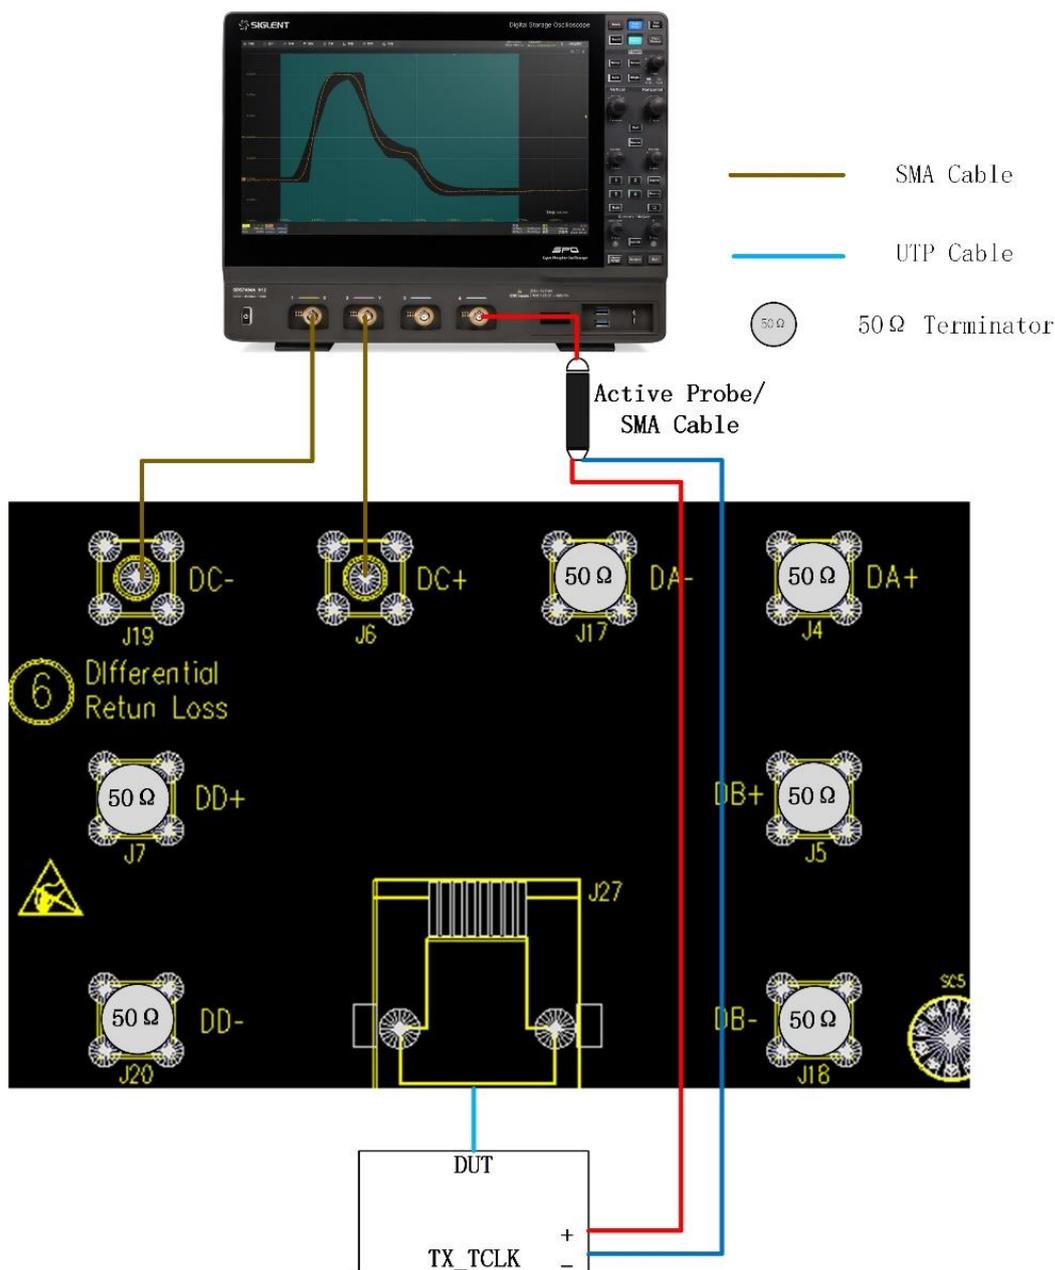

Figure 10-8 Connection of Section ⑥ on test fixture for Slave Mode JTXOUT test
The connection with section ⑥ on the test fixture which supports SMA cables to probe the MDI signal, which is shown as Figure 10-8, the test step is as follows:
- (1) Use a short UTP cable to connect the DUT to the J27 connector on section ⑥ of the test fixture.
- (2) According to the signal pair being tested, using two SMA cables with equal length to connect the corresponding test points {DA(J17, J4), DB(J5, J18), DC(J6, J19), DD(J7, J20)} on section ⑥ of test fixture to two input channels of the oscilloscope.
- (3) Connect the other unused test points on section ⑥ of the test fixture to 50Ω terminators.
- (4) Connect the DUT's TX_TCLK to one input channel of the oscilloscope by using an active probe or a SMA cable.